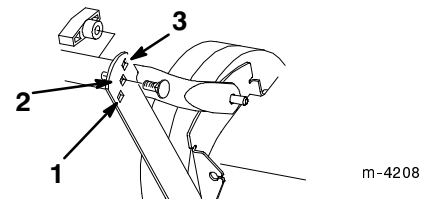

Figure 12
The handle has three height positions: high, medium, and low (Fig. 12). Select a handle height position that is most comfortable for you.
1. Remove the handle bolts and knobs from the lower handle section and the support brackets (Fig. 12).
2. Secure the handle to the support bracket with two handle bolts installed from the outside and two knobs, using the height adjustment holes on the brackets that best fits your height (Fig. 12).